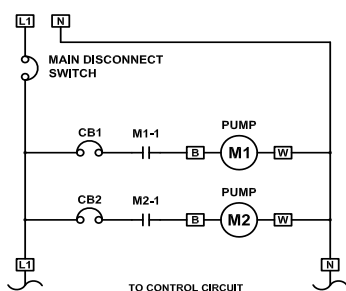

Figure 2
1. Standard Motor Controls Incoming Power Service of 200/240vac - 1 phase. Simplex and Duplex setup (Figure 2). Adder Options Available.
1. Standard Motor Controls Incoming Power Service of 200/240/480vac - 3 phase. Simplex and Duplex setup (Figure 2). Adder Options Available.